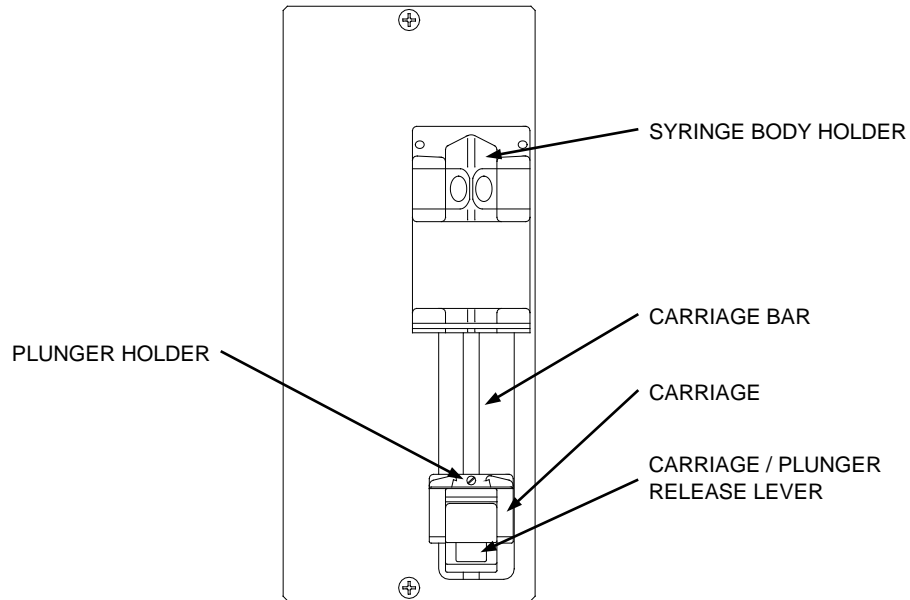

Figure 7 - Heparin Pump Module.
6. When the carriage has stopped, press the [Escape] key and clean the carriage bar (See Figure 7).